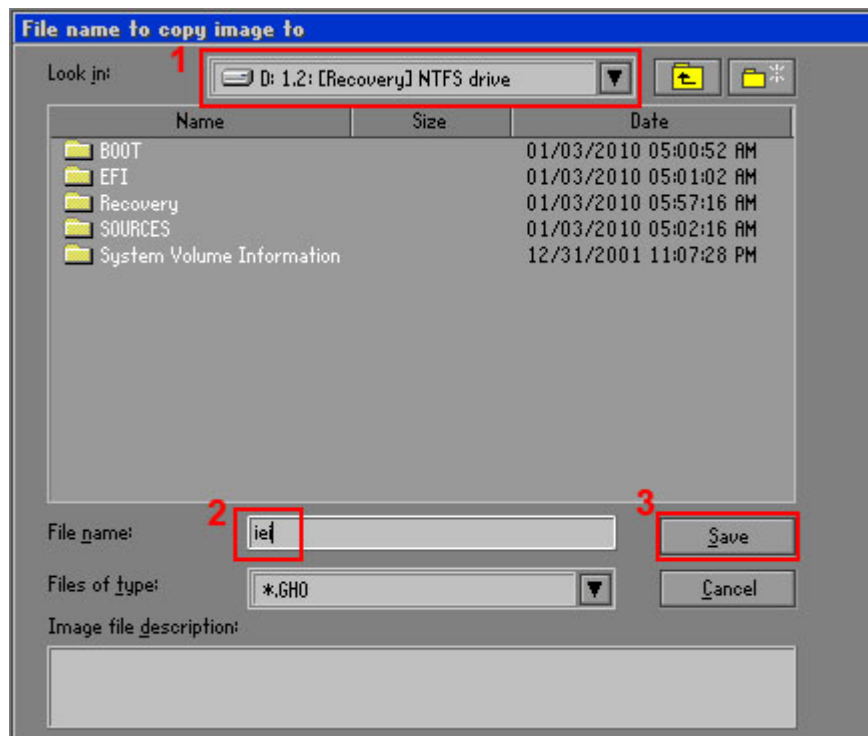

Figure A-16: File Name to Copy Image to
Step 7: Select **1.2: [Recovery] NTFS drive** and enter a file name called **iei** (**Figure A-16**). Click **Save**. The factory default image will then be saved in the selected recovery drive and named IEI.GHO.